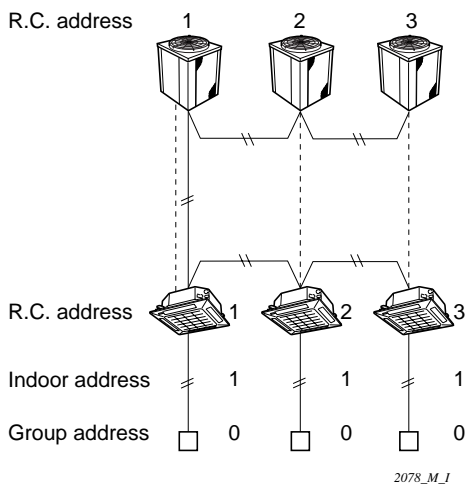

Fig. IV-11
**(H) Set the indoor unit address (Ref. Fig. IV-11, IV-12)**